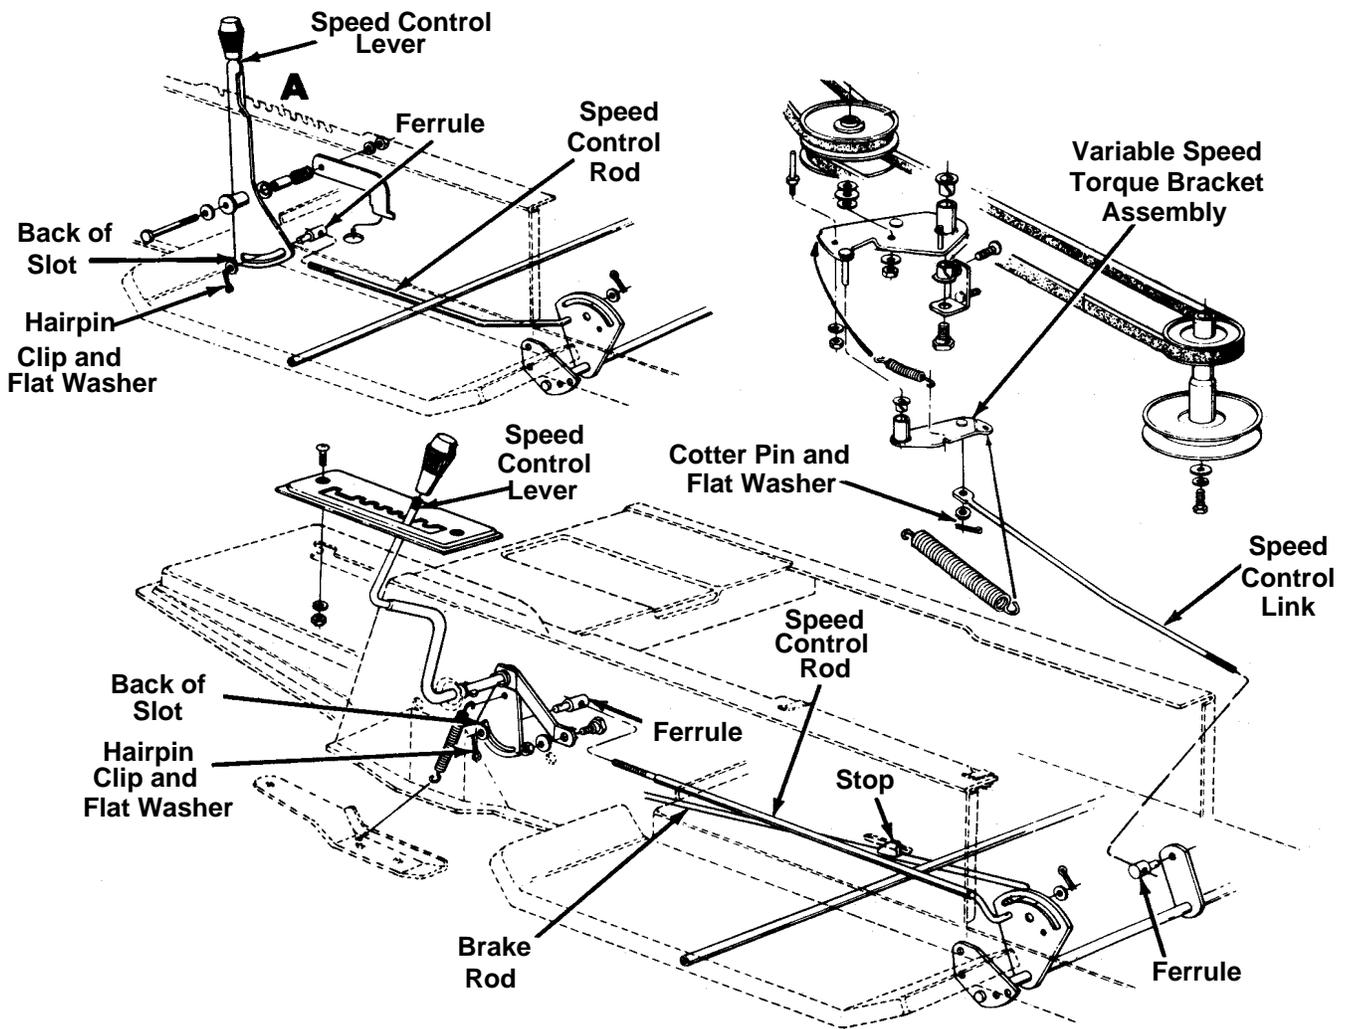

Figure 17
(See Figure 17)
1. Adjust the speed control lever by pushing the clutch-brake pedal forward until the stop on the brake rod is against the frame. See Figure 17. Have another person hold the pedal in this position as you make the following adjustment. Place the speed control lever in parking brake position. Remove the hairpin clip and flat washer, and adjust the ferrule on the rod so it is against the back end of the slot. See Figure 17. Then lengthen rod one more turn. Reassemble and secure with the flat washer and hairpin clip.